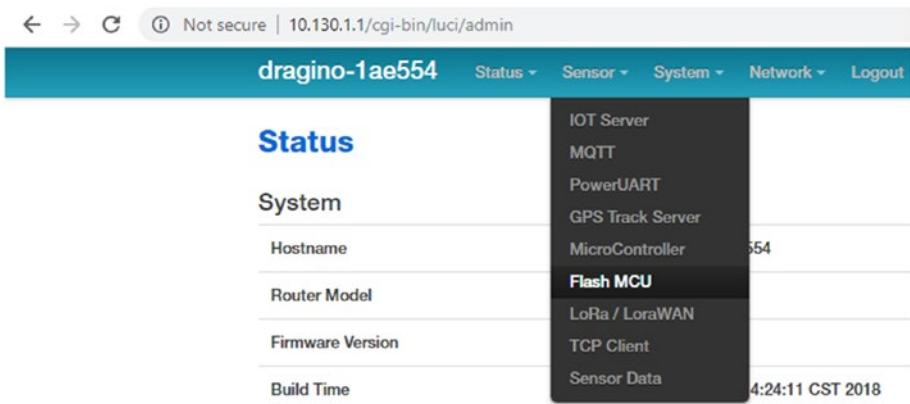

Figure 8-3. Menu command for uploading an MCU image
2. Connect the LG01 gateway to the Internet (connect LG01's WAN port to your router's LAN port using an Ethernet cable). In the LG01 configuration interface (<http://10.130.1.1>), choose Sensor ➤ Flash MCU (Figure 8-3).